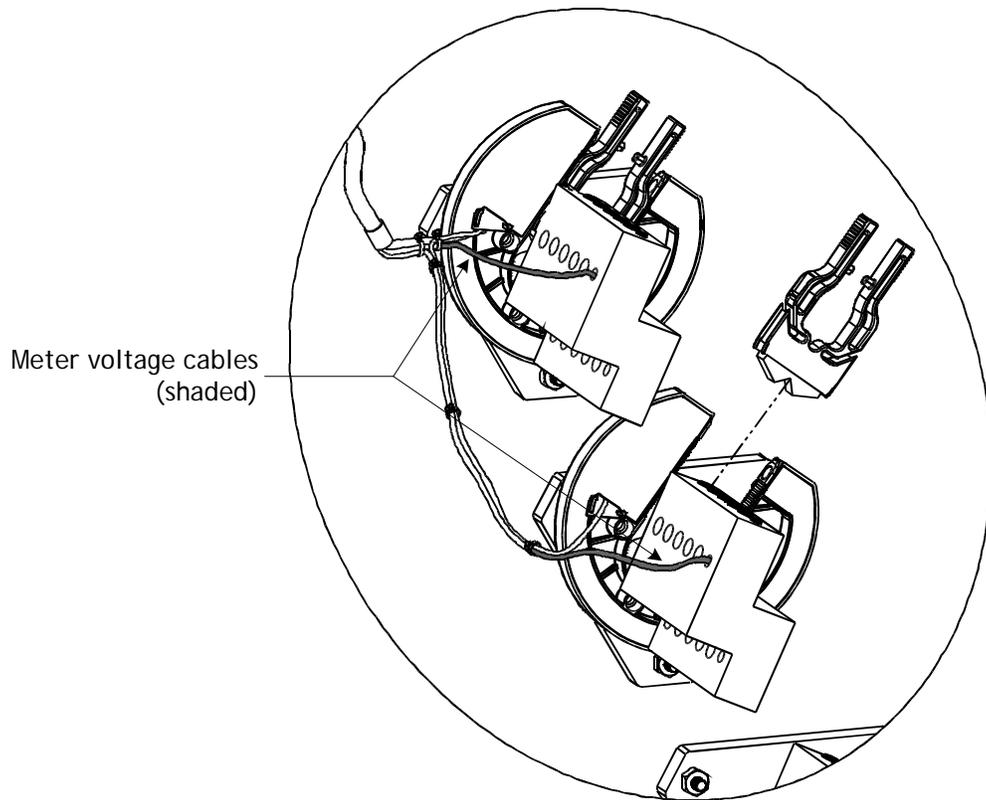

Figure 4.
The current sensors are positioned on the X1 and X3 transformer line outputs with the sensor apertures parallel or turned away from each other. Either current sensor can go on either transformer terminal. The side of the sensors marked "SOURCE" must face inward towards the transformer. See Figure 4.
- b. Squeeze the sliding retainer handles together and slide the retainer into the sensor aperture (see Figure 4).